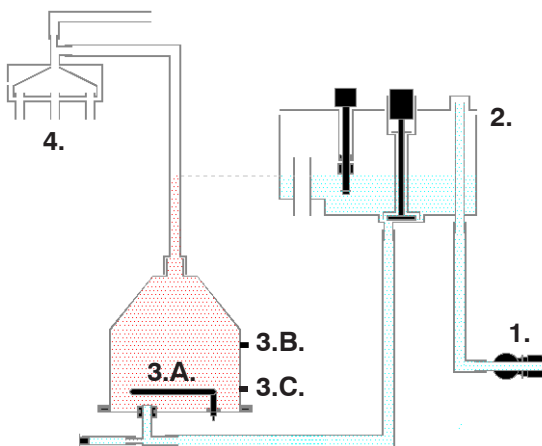

Fig. 1 The water dosing system
| Fig. 1 The water dosing system | 2 |
- The magnetic valve (fig.1 ,1.) is opened and fills water in the float tank with a speed of 2 litres per minute, depending on the pressure.
After the system is completely filled with water, element (fig.1 ,3.A.) is switched on by means of an electronic relay (solid-state relay) in the machine.
The temperature sensor (fig.1 ,3.B.), which is mounted on the outside of the boiler, measures the actual temperature of the water. This ensures that the water in the boiler is heated to the desired final temperature.
There is a second temperature sensor on the boiler (fig.1 ,3.C.). This sensor monitors the outlet temperature of the dosed water. If this sensor measures a too low temperature, the machine is blocked. No more water is dosed.